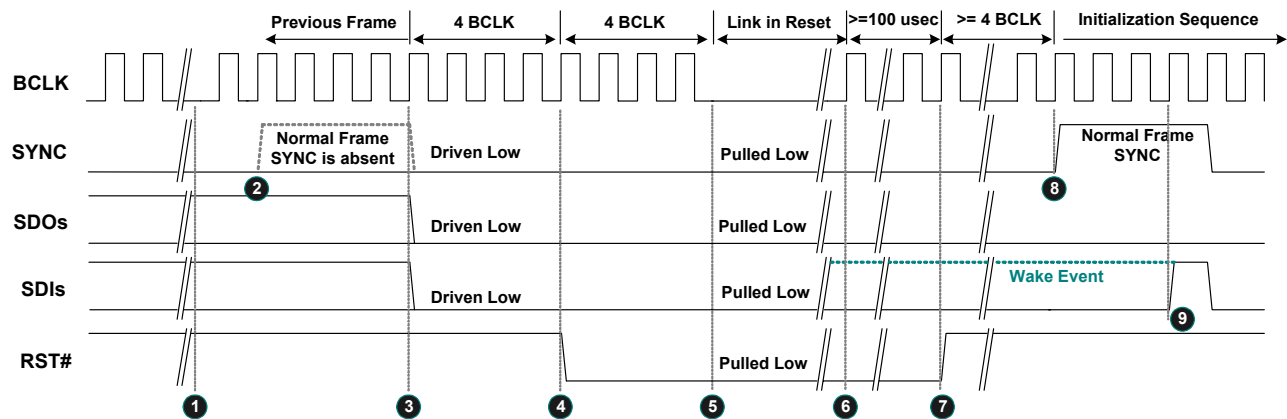

Figure 13. Link Reset Timing
- 3). Software initiates power management sequences. Figure 13, page 19, shows the ‘Link Reset’ timing including the ‘Enter’ sequence (❶~❷) and ‘Exit’ sequence (❸~❹)